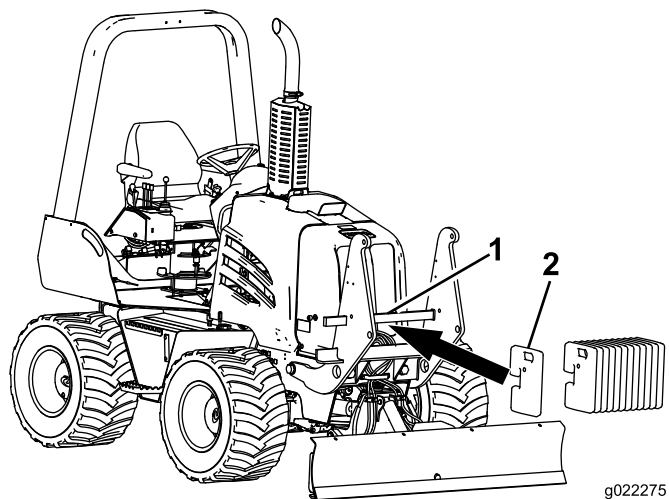

Figure 3
1. Use the lifting equipment to lift and install one or more of the counterweights onto the mounting frame; refer to Figure 3.